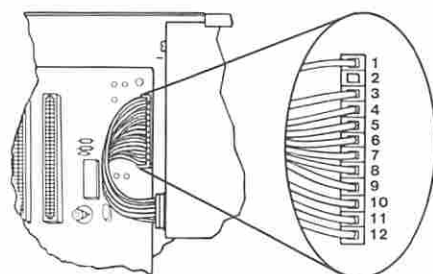

Figure 1. System Board Power Connectors
- Check for a voltage of 2.4 to 5.2 Vdc between pins 1 and 5 (ground) at the system board power supply connector, Figure 1.